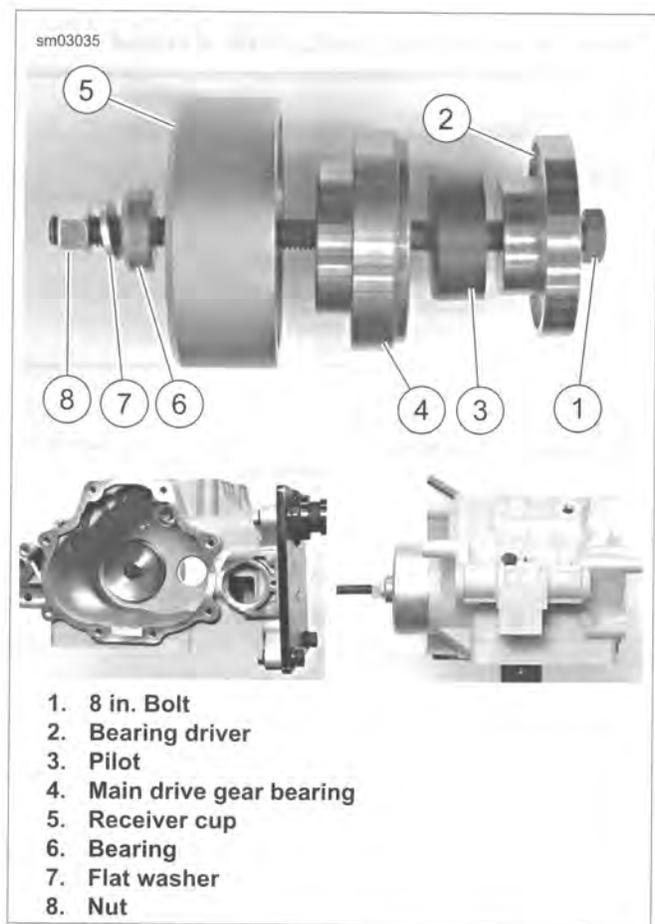

Figure 6-39. Removing Main Drive Gear Bearing
12. See Figure 6-39. Slide PILOT (Part No. HD-35316-10) (3) over small end of BEARING DRIVER (Part No. HD-35316-9) (2).
13. Apply a light coat of graphite lubricant to the threads of the 8 IN. BOLT (Part No. HD-35316-4A) (1) and insert through bearing driver and pilot.
14. Insert bolt with bearing driver and pilot into right side of transmission case, through main drive gear bearing (4). Make sure bearing driver fits up against main drive gear bearing and pilot is centered in bearing bore.
15. At left side of case, slide RECEIVER CUP (Part No. HD-35316-11) (5) onto bolt and over main drive gear bearing. Install BEARING (Part No. RS-25100-200) (6), flat washer (7) and nut (8) over end of bolt.